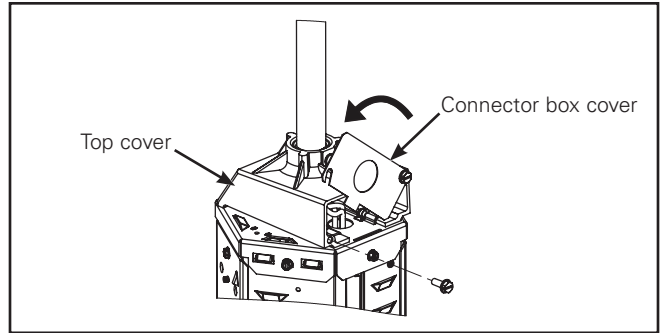

Figure 6.
5. Rotate the cover to insert in to Top cover slot and fasten to Connector box (Figure 6).